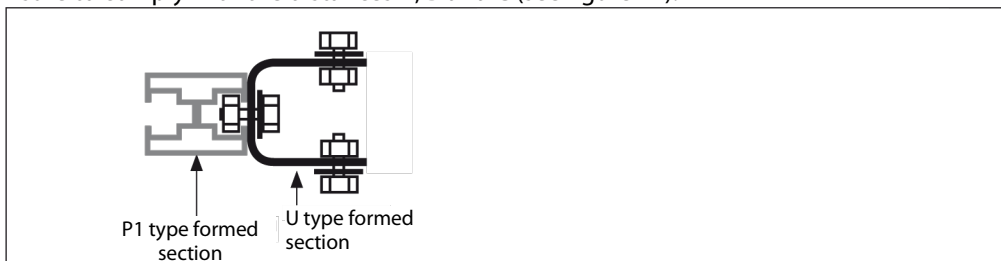
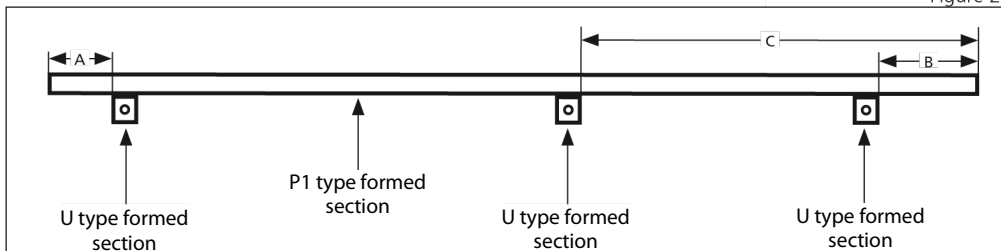

Figure 20
Figure 21
- Install three of the prepared U formed sections to the first P1 type formed section (see figure 20) - Make sure to comply with the distances A, B and C (see figure 21).